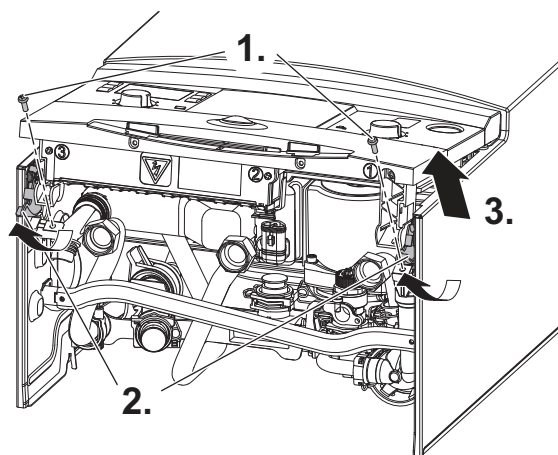

Fig. 25 Releasing the control panel
5. Refer to figure 25 and release the two screws securing the lower part of the case.